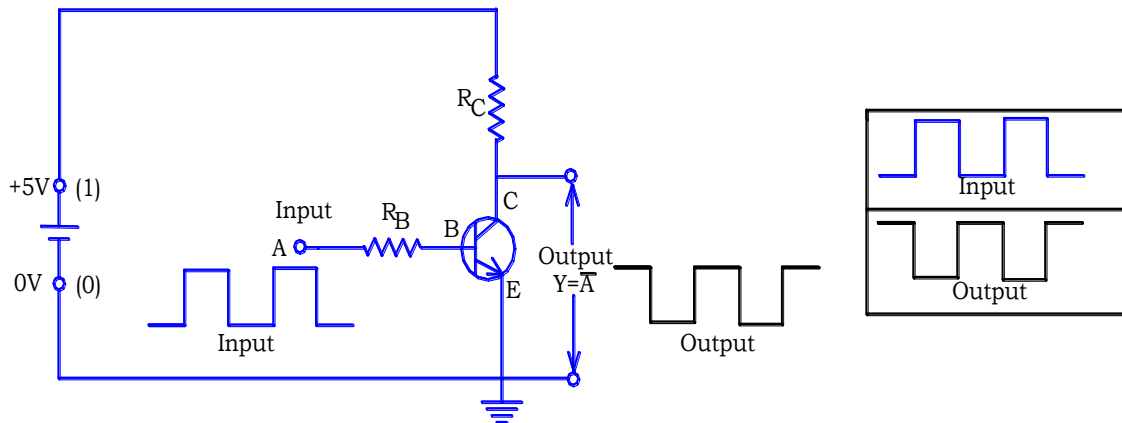

Fig 8.12 Transistor not gate with I/P and O/P waveforms
**Transistor NOT gate:** The circuit of NOT gate using a transistor is shown in fig. 8.12.